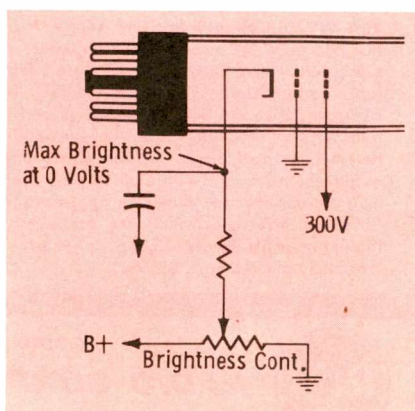

Fig. 2. Basic CRT circuit showing bias arrangement for maximum brightness.
Having established the mode of operation, let's proceed to see how the low-Eg2 tube applies these principles. Consult the schematic of a basic picture tube gun structure in Fig. 2 and note that for a standard CRT, the first anode (G2) operates at about 300 VDC, the control grid at ground potential (OV), and the cathode receives the video driving signal. In addition, the brightness control is connected into the cathode circuit to provide variable bias. The video driving signal (for cathode drive) is positive-going, and maximum brightness is obtained when the cathode voltage equals the control grid voltage. In this configuration, the positive-going video signal increases instantaneous bias and causes a corresponding change in the instantaneous brightness level. Because the setting of the brightness control determines the fixed bias on the picture tube, maximum illumination is a function of the brightness-control setting when all other voltages remain unchanged. Maximum contrast, however, is a function of the amplitude of the video drive signal, increasing in more or less direct proportion until saturation and cutoff levels are reached. To summarize, we can say that maximum usable brightness and contrast levels are obtained when the DC bias is such that the video blanking pedestal causes raster cutoff and maximum white produces a condition of zero bias.